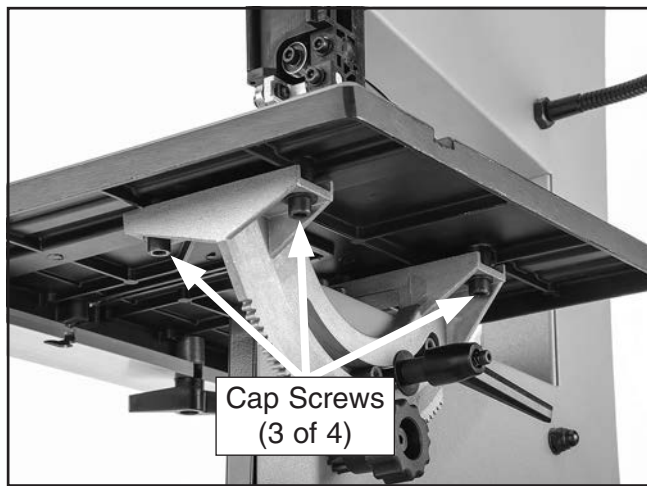

Figure 30. Location of trunnion bracket flange bolts.
5. Loosen the four cap screws securing table to trunnion brackets (see **Figure 30**).